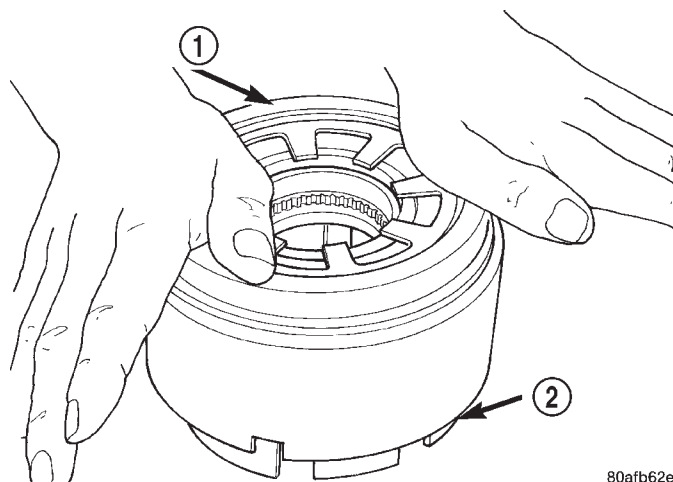

Fig. 258 Install OD/Reverse Piston
(4) Install the OD/Reverse piston assembly to the input clutch retainer as shown in (Fig. 258).